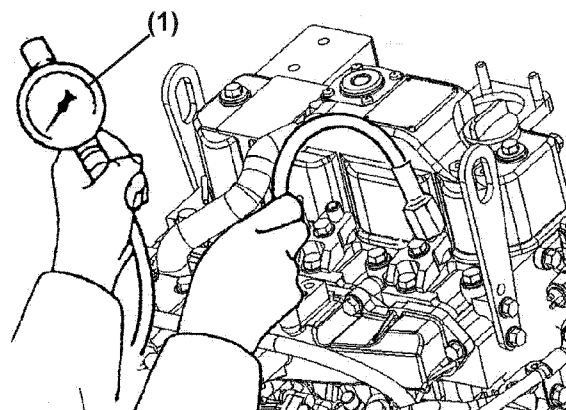
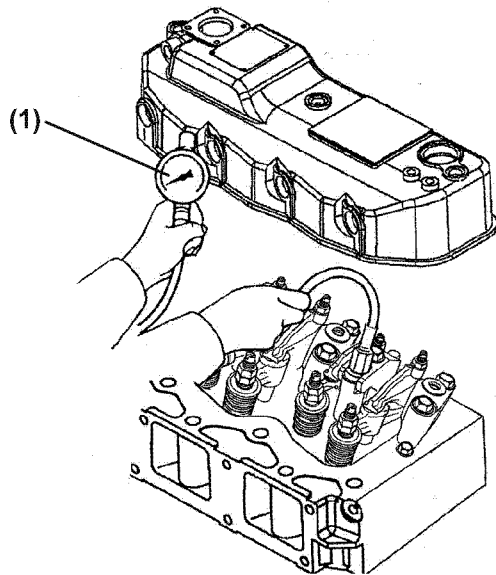

Figure 15-1
Figure 15-2
6. Before installing the compression gauge ((Figure 15-1, (1)) 2 valve engine, (Figure 15-2, (1)) 4 valve engine) adapter, crank the engine with the stop solenoid disconnected for a few seconds to clear the cylinder of any residual fuel.